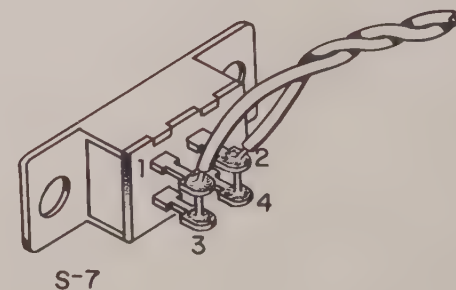

FIGURE 23. WIRING S-7
- ☒ S-7, 4-terminal slide switch and two white/brown wires. Remove an extra $\frac{1}{4}$ " of insulation from one end and twist the wires together for their entire length. See Figure 23. Push the end of one wire down through terminal 1 into terminal 3. Solder both terminals. Push the other wire end on the same end of the wired pair, down through terminal 2 into terminal 4. Solder both terminals.